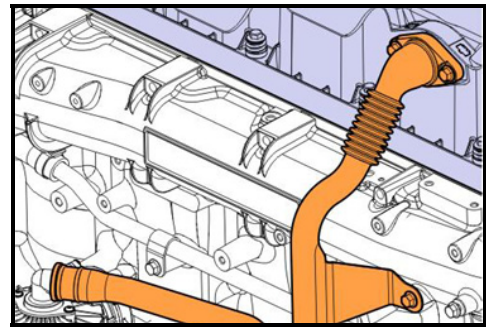

FIGURE 27
20. Install the crankcase ventilation tube with new O-ring #21532258. Install the fasteners securing crankcase ventilation tube and bracket to valve cover and intake manifold (fig. 27). Torque-tighten fasteners to 24 ± 4 Nm (18 ± 3 ft-lb).